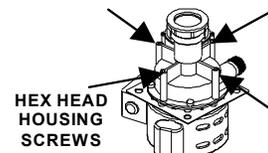

FIGURE 2
The LTA pump is designed to be virtually maintenance free when used in accordance with the installation guidelines specified in these instructions. Installation and preservation of an inlet screen will prevent excessive accumulation of material in the pump chamber and possible obstruction of the impeller by foreign objects such as stones, string, buttons, etc. Before returning the unit for replacement, the pump housing should be removed and the impeller chamber checked for obstructions. To check impeller, Unplug pump and remove from sink. Remove four (4) 1/4" hex head screws from the "fins" of the housing as shown in figure 2. Separate housing from motor base plate and inspect for obstructions. After clearing any debris, replace housing on the base plate making sure that the rubber "o" ring is in place around the "step" in the base plate. Re-install pump following all instructions.